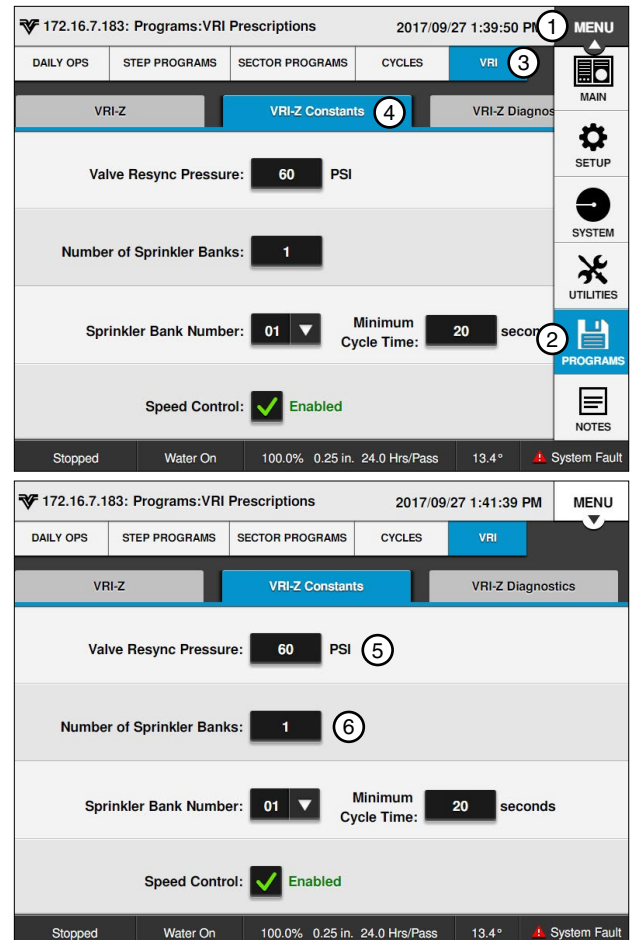

Figure 165-1 1. Menu 4. VRI-Z Constants
1. Push **Menu, Programs, VRI, and VRI-Z Constants** to display the VRI-Z Constants screen. Refer to Figure 165-1.
The **Number of Sprinkler Banks** field displays the current number of sprinkler banks. Refer to Figure 165-1.